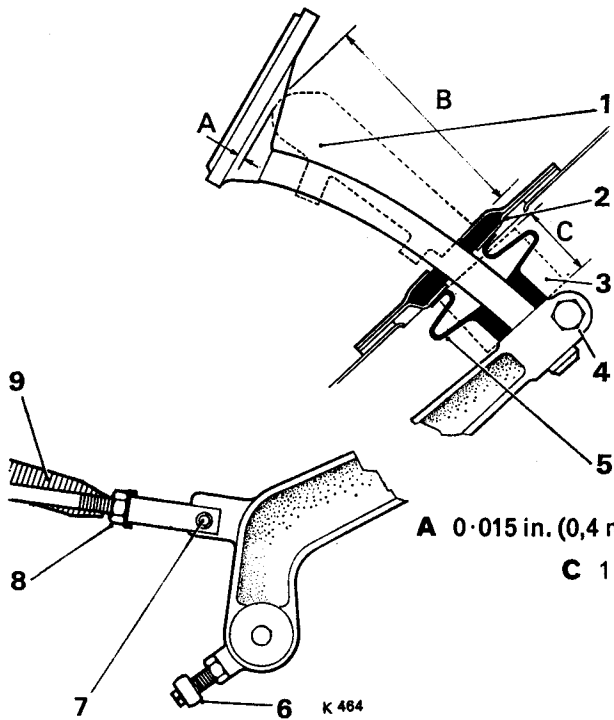

FIG. G56 SETTING THE BRAKE PEDAL AND BRAKE OPERATING LEVER
Brake pedal operating rod—To adjust (see Fig. G56)
4. Position the setting template as illustrated in Figure G56 into the brake pedal operating lever and raise the lever complete with template until it touches the underside of the toeboard seal housing.
Brake pedal—To check (see Fig. G56)
1. Using the checking template as illustrated in *Figure G56*, positioned between the underside of the pedal and the toeboard seal, check that there is at least 0·015 in. (0,40 mm.) clearance with the brake actuation linkage in the 'OFF' position.